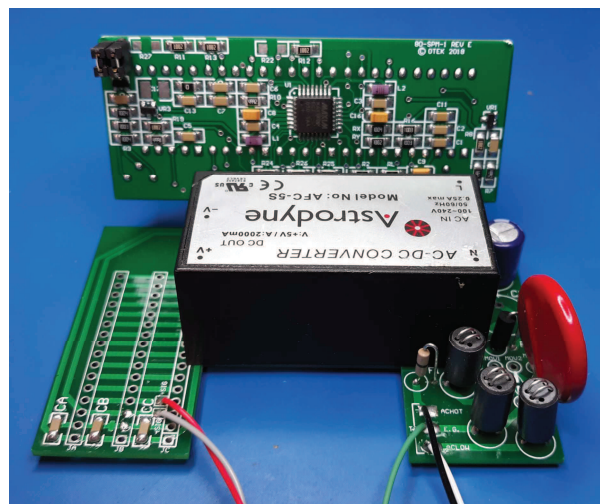

Figure 5: Production test fixture
- 4.2.1 Secure the 80-SPM-1 Display Board into the production test fixture as in **Figure 5** below.